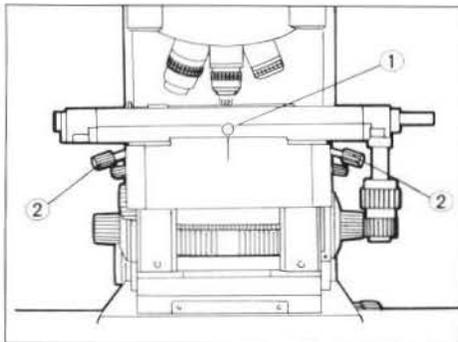

Fig. 36
2. Loosen the stage rotation stopping screw ①, and rotate the stage by about 180°. (Fig. 36)
3. If the specimen detail moves from position "A" to "B" as the stage rotates, bring the specimen detail to position "C", halfway between "A" and "B" with the stage centering knobs ②. (Fig. 36)